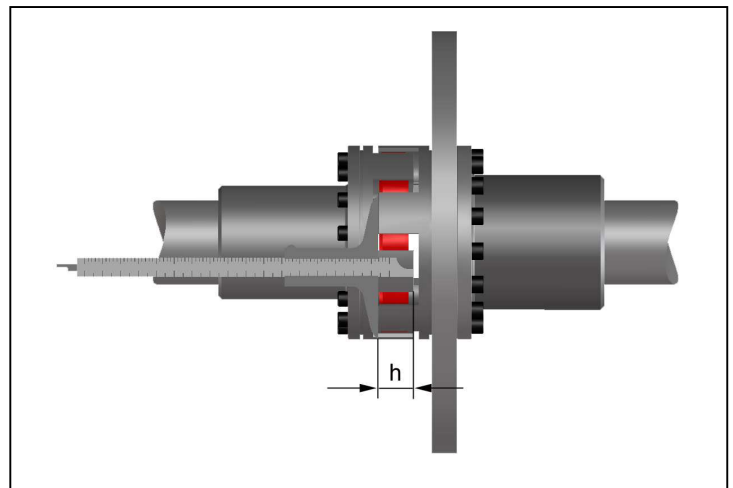

Fig. 11
- Measure the axial claw overlap 'h' as shown in Fig. 11.